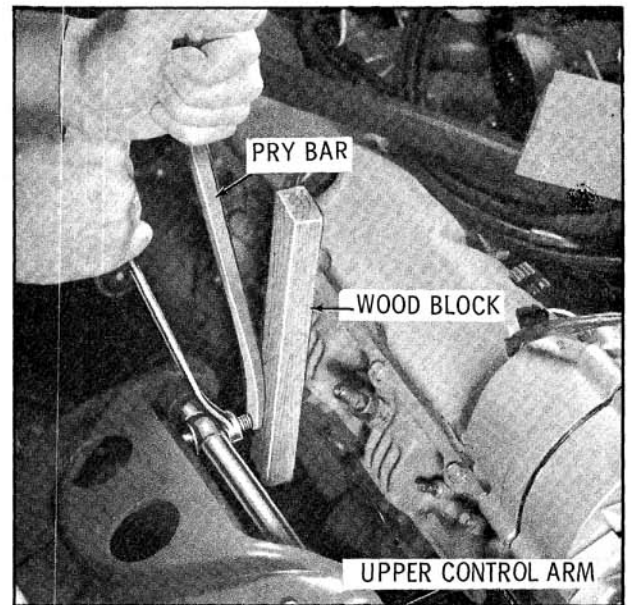

Fig. 9-14 Removing Upper Control Arm Bolts
- c. Remove nut and using a suitable pry bar and block of wood, pry bolts from the frame as shown in Fig. 9-14.